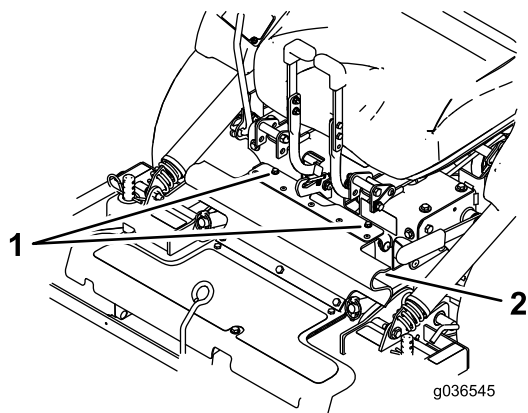

Figure 8
3. Loosen the bolts attached to the rubber guard (Figure 8).
3. Install the rubber guard with the bolts (Figure 8).